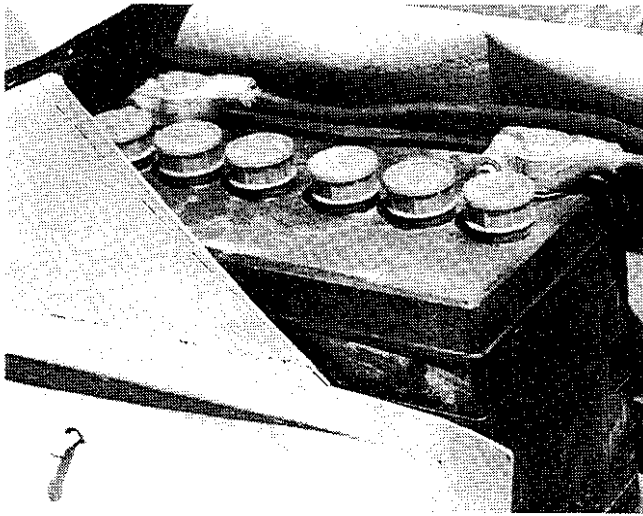

FIGURE 41
8. Check the Battery Water Level to insure it is maintained at the battery ring or approximately 1/2 inch above the plates. See figure 41. If water is needed, add distilled water